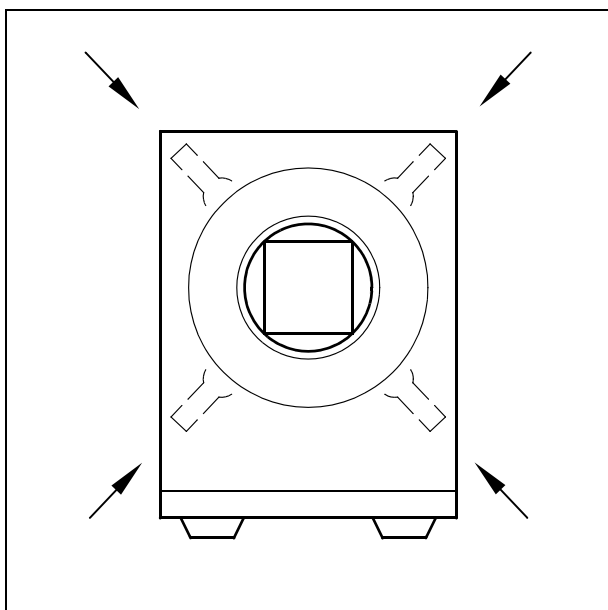
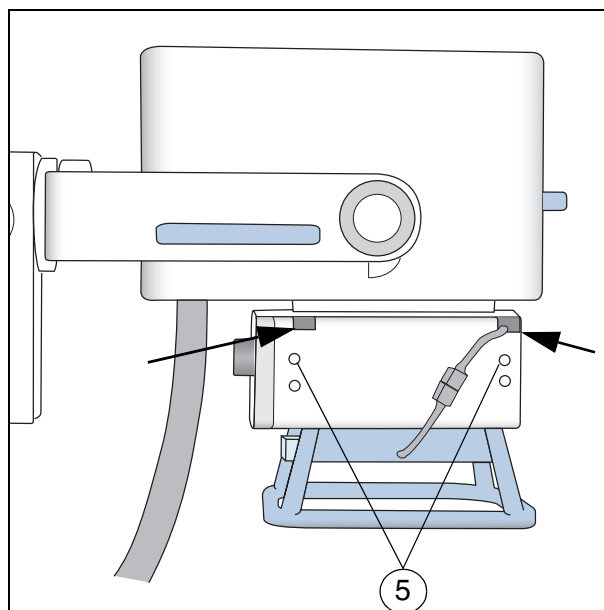

Fig. 4
Fig. 5
- Remove two screws on each side (5/Fig. 5) of the upper cover.
- Remove the collimator after removing the four Allen screws (arrow /Fig. 4-Fig. 5).
- Attach the new collimator with the four screws (arrow /Fig. 4-Fig. 5) and center it.